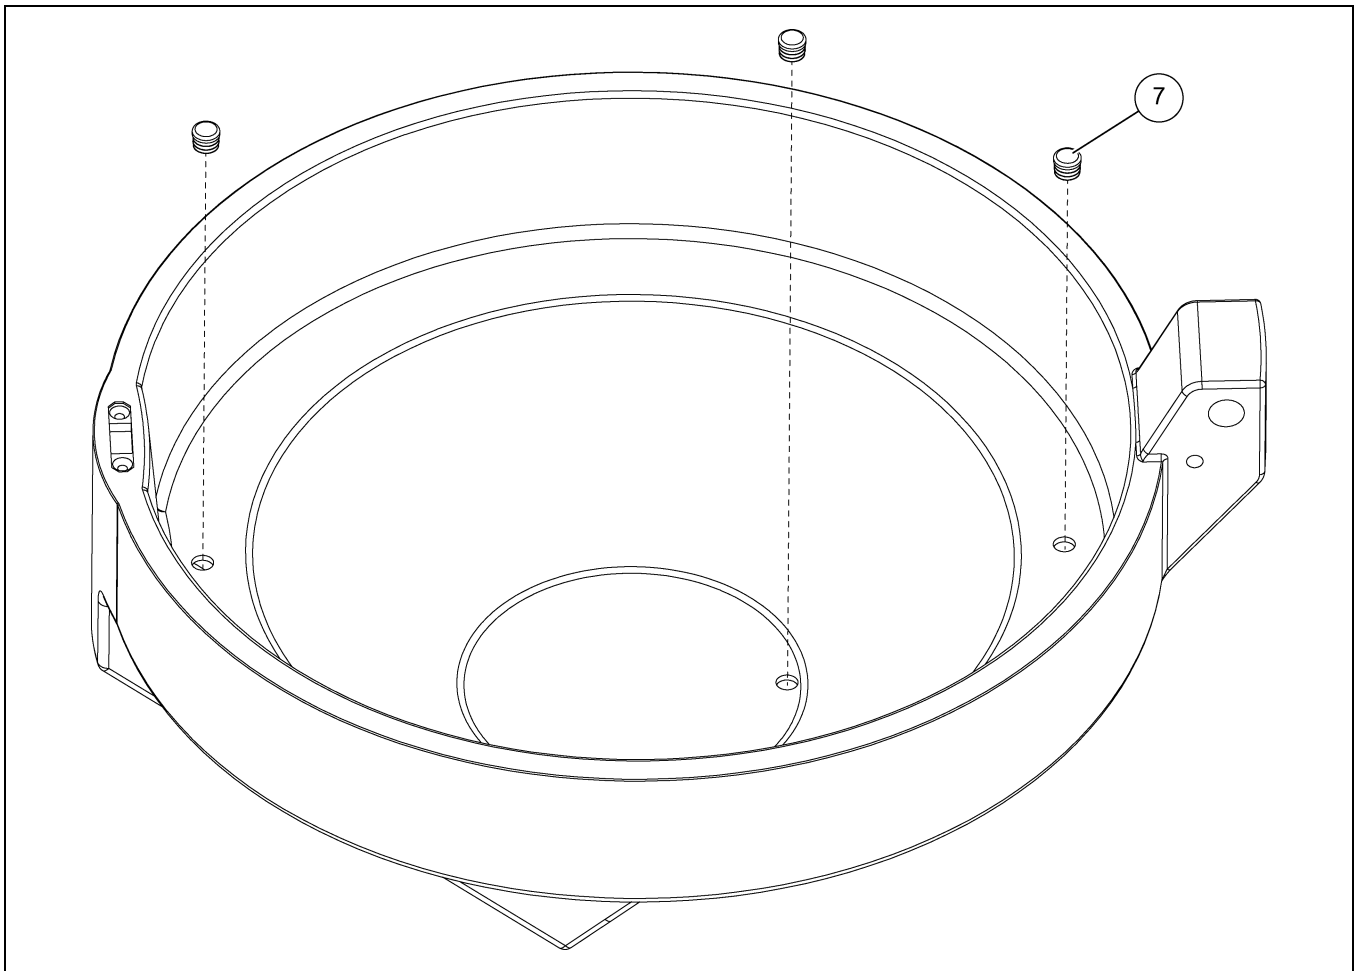
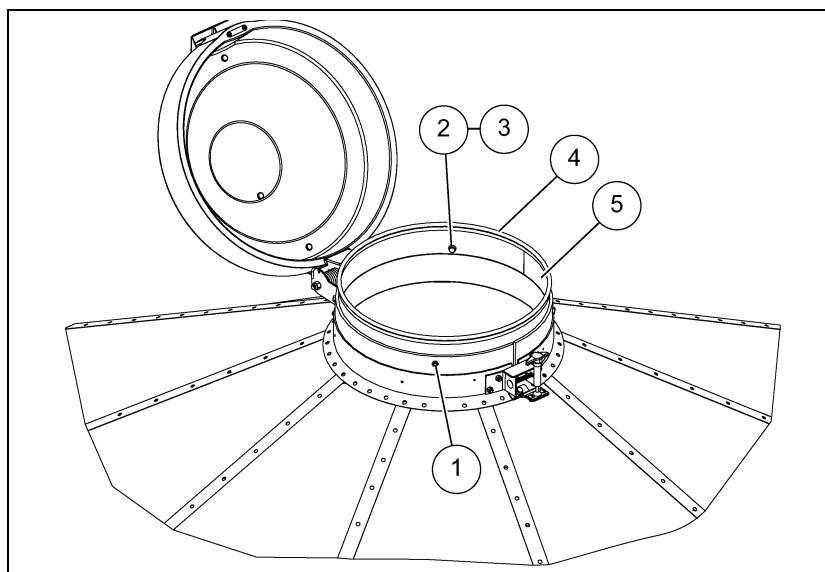

Figure 1
Figure 2
Install plugs (7) as shown in Figure 1. Use a rubber mallet if necessary. The plugs (7) are required to keep feed from blowing into the lid cavity. Next, assemble the peak collar extension (5) as shown in Figure 2 on Page 2. It is to be placed directly on top of the peak collar and then bolted to the existing rubber belting using standard bin hardware (2 and 3). It will be necessary to drill 3/8" diameter holes through the rubber belting (1). Next push the bulb seal strip over the hemmed edge of the peak collar extension. (See Figure 5 on Page 3.)